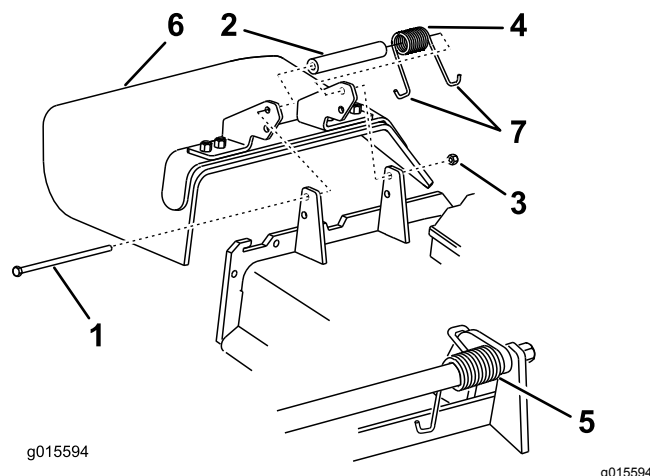

Figure 84
1. Remove the locknut, bolt, spring, and spacer holding the deflector to the pivot brackets (Figure 84).
Note: Make sure that 1 J-hook end of spring is installed behind deck edge before installing the bolt as shown in Figure 84.
6. Place 1 J-hook end of the spring around the grass deflector (Figure 84).